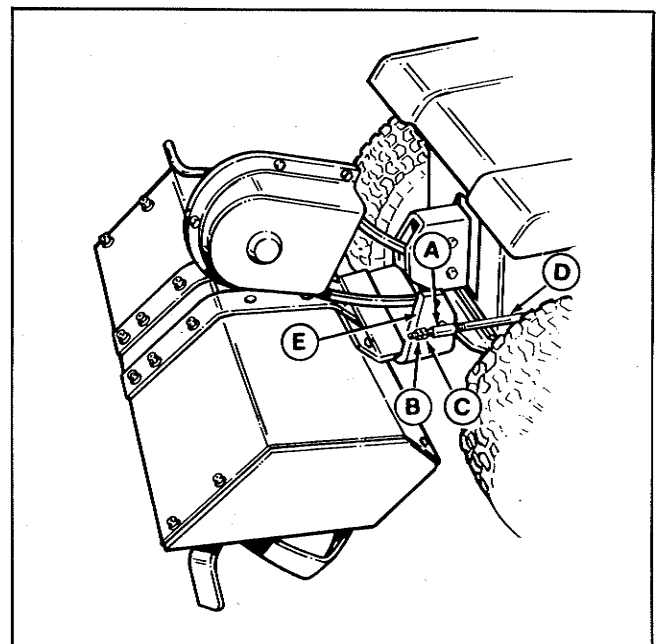

Figure 8. Lift Lever Adjustment
Moving the jam nuts (B & C, figure 8) affects the tilling depth and ground clearance. Moving the jam nuts toward the rear increases the tilling depth and decreases ground clearance. Moving the jam nuts toward the front decreases the tilling depth and increases the ground clearance. Initially, position the two nuts so that the lift arm (E) nearly touches the back of the tractor when the tiller is fully raised. If operation shows that greater tilling depth is needed, move the nuts toward the rear. To move the nuts, proceed as follows.
2. Hold forward jam nut (C) while loosening rear jam nut (B).
4. Hold forward jam nut (C) while tightening rear jam nut (B). The two nuts must be jammed tightly together.